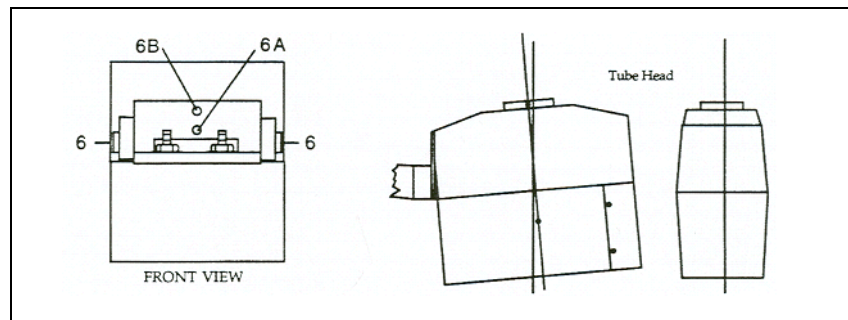

Fig. 12 Inclination Adjustment of the Tube Head
- Loosen items 6 and 6B (refer to Fig. 12).